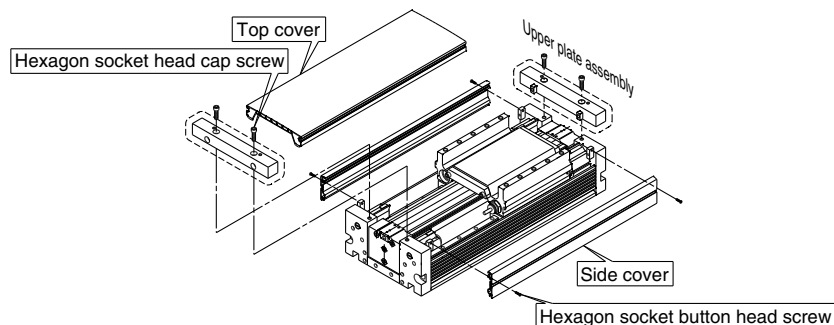

Fig. 2 Cover installation and removal
2. When the adjustment described in 1 above is insufficient, the shock absorber can be adjusted. Remove the covers as shown in Fig. 2 and make further adjustment by loosening the hexagon nut.